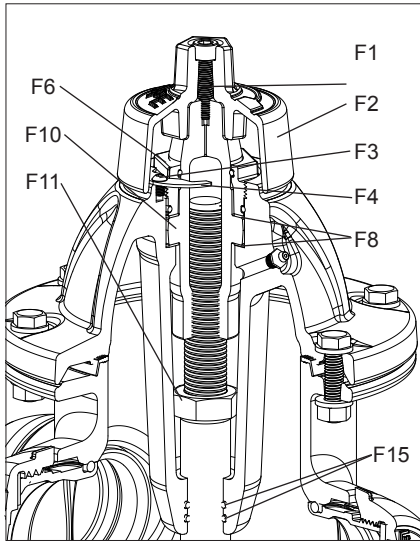

Fig. 7A
1. Remove the Weathershield Bolt (F1) with a 5/16", (8mm) hexagon key. Lift off the Weathershield (F2). (See Fig. 7A)
3. Using the AVK operating wrench, or a large adjustable wrench, unscrew the Thrust Nut (F6) counterclockwise. (See Fig. 7A & 7B)
6. Place one Anti Friction Washer (F8), on the top and bottom of the Operating Nut (F10) thrust collar. (See Fig. 7A)
11. Place one Anti Friction Washer (F8), on the top and bottom of the Operating Nut (F10) thrust collar. (See Fig. 7A)